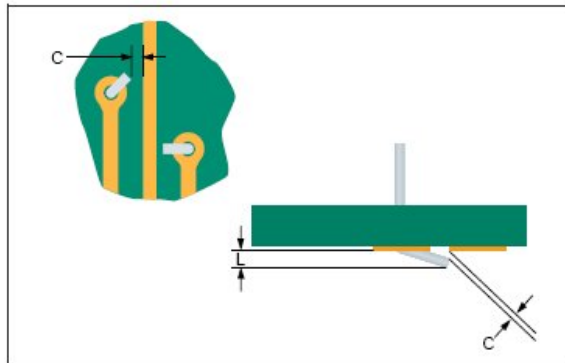

Figure 7-99
- The clinched lead does not violate the minimum electrical clearance (C) between noncommon conductors.
- The protrusion (L) beyond the land is not greater than the similar length allowed for straight-through leads. See Figure 7-99 and Table 7-5.